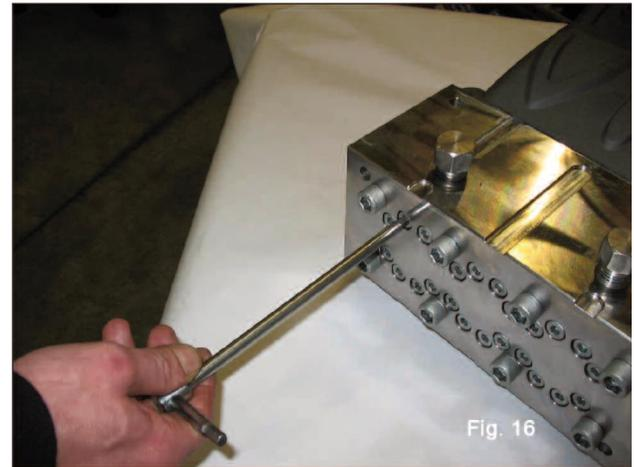

Fig. 16
- Loosen but do not remove the M8 x 100 screws fastening the liners to the head, as shown in fig. 16, so as to free them.